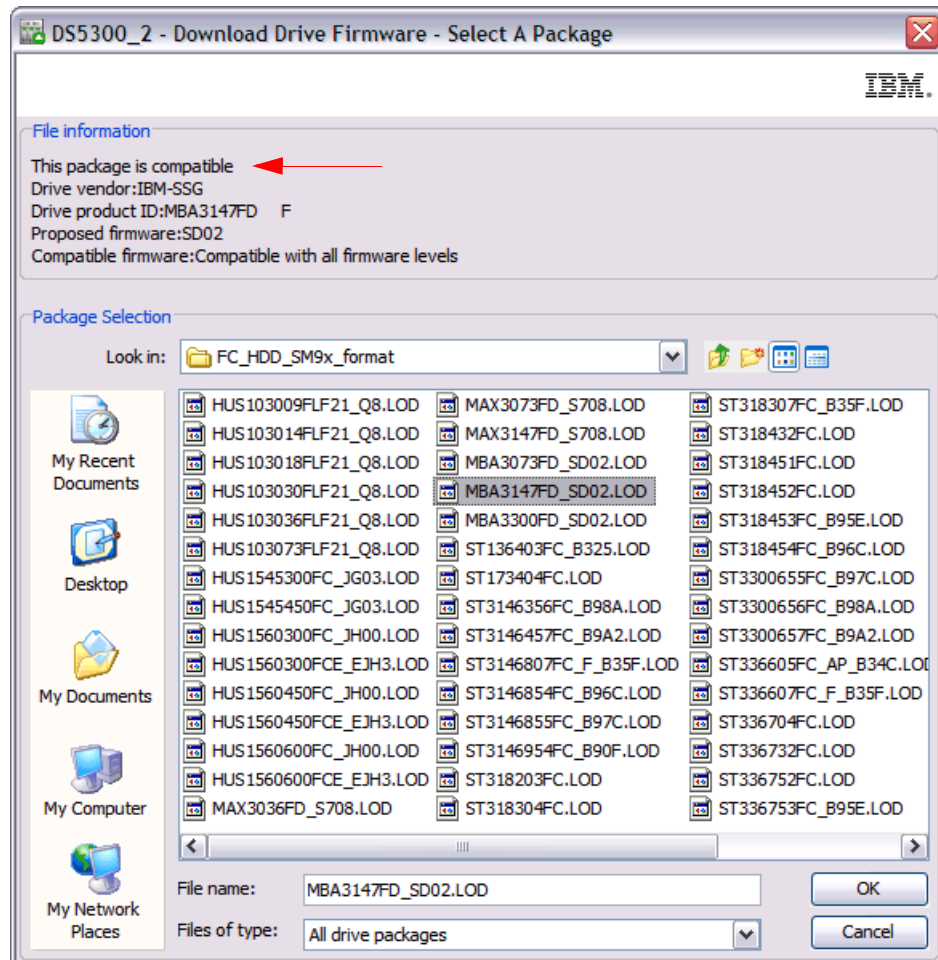

Figure 5-23 Drive firmware: Compatible package
- The window shown in Figure 5-23 opens. Here you can browse and choose drive firmware packages that you have previously downloaded. This window shows, in the File Information pane, all packages available and if a selected firmware package is compatible with disk drives present in the DS5000. Figure 5-23 shows compatible firmware.